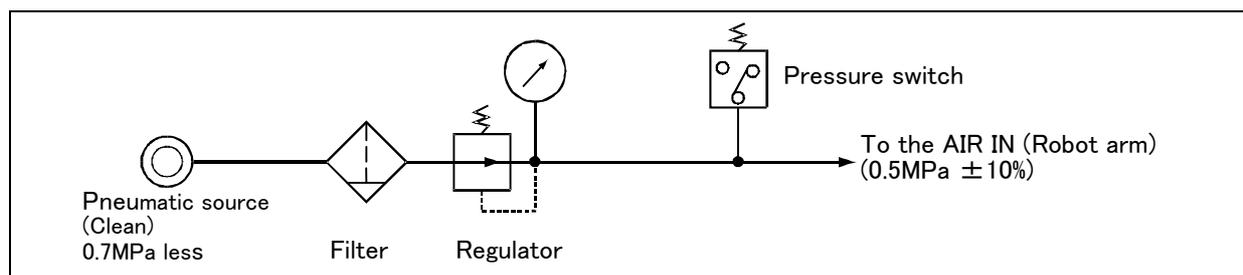

Fig.2-68 : Air supply circuit example for the hand
Fig.2-67 : Wiring and piping system diagram for hand and example the solenoid valve installation (RH-3FHR series) \*Refer to Fig. 2-68 for Air supply circuit example.
- (1) Make sure that a surge voltage protection circuit such as a diode is connected to the solenoid coil in parallel.
- (2) When the factory pneumatic pressure drops, as a result of the hand clamp strength weakening, there can be damage to the work. To prevent it, install a pressure switch to the source of the air as shown in Fig. 2-68 and use the circuit described so that the robot stops when pressure drops. Use a hand with a spring-pressure clamp, or a mechanical lock-type hand, that can be used in cases where the pressure switch becomes damaged.
- (3) The optional hand and solenoid valve are of an oilless type. If they are used, don't use any lubricator.
- (4) Supply clean air to the vacuum generation valve when you use clean type robot.
- (5) If the air supply temperature (primary piping) used for the tool etc. is lower than ambient air temperature, the dew condensation may occur on the coupling or the hose surface.